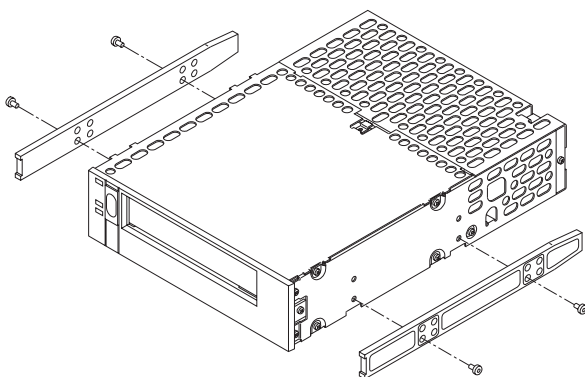

Figure 5 Attaching slide rails to the tape drive
2. Use #6 32 screws to attach two slide rails to the sides of the tape drive as shown in Figure 5. You can use rails that are provided with your computer system or purchase rails from Exabyte or your computer supplier.